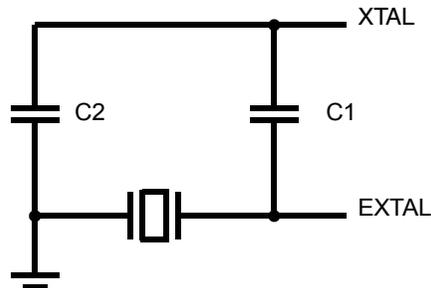
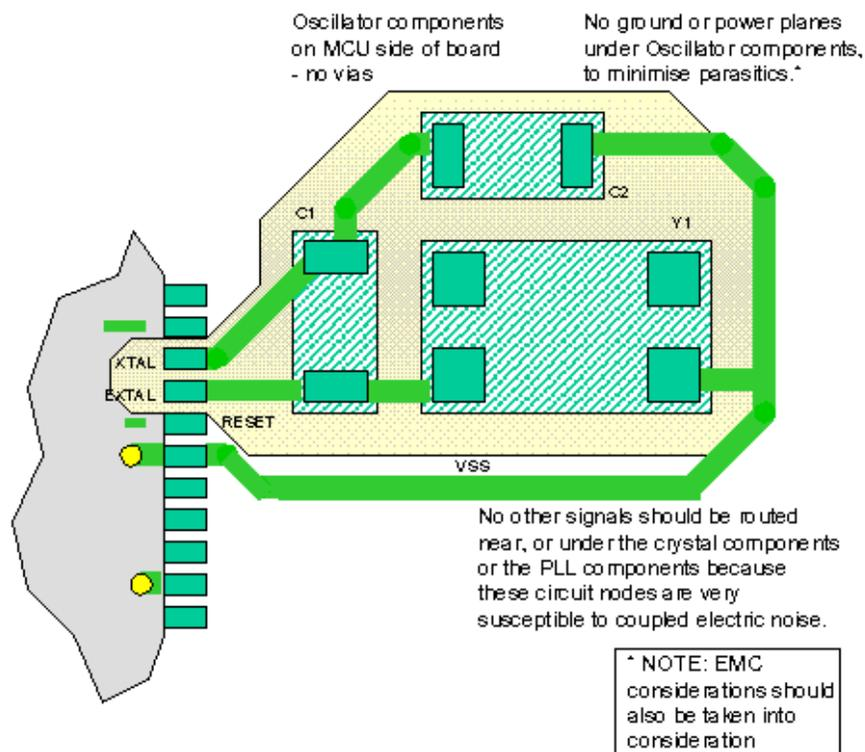

Figure 4. Schematic of External Components
Figure 5. Recommended PCB Layout
- The external capacitor values were: C1 = 10 pF and C2 = 33 pF. (To see how the external capacitors fit into the circuit board layout, see Figure 4.)
This Colpitts Oscillator is very sensitive to the external components on the PCB. The following guidelines provide some necessary information on the PCB layout. The external component connection is shown in Figure 4 and the layout on PCB is shown in Figure 5 on page 6.